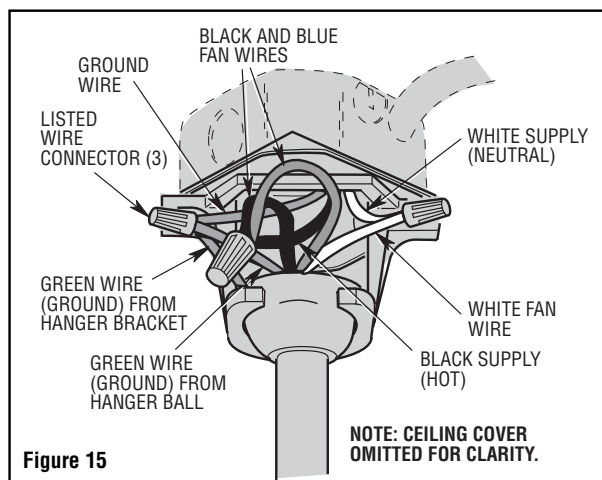

Figure 15
1. Connect the green grounding lead from the hanger ball and the green grounding lead from the hanger bracket to the grounding conductor of supply (this may be a bare wire or wire with green colored insulation). Securely connect wires with wire connectors supplied. (Figure 15.)
2. Securely connect the fan motor white wire to the supply white (neutral) wire using wire connector supplied (Figure 15). Securely connect the fan motor black wire and blue wire to the supply black (hot) wire using wire connector supplied (Figure 15). After connections have been made, turn leads upward and carefully push leads into the outlet box, with the white and green leads on one side of the outlet box and the black and blue leads on the other side of the outlet box.